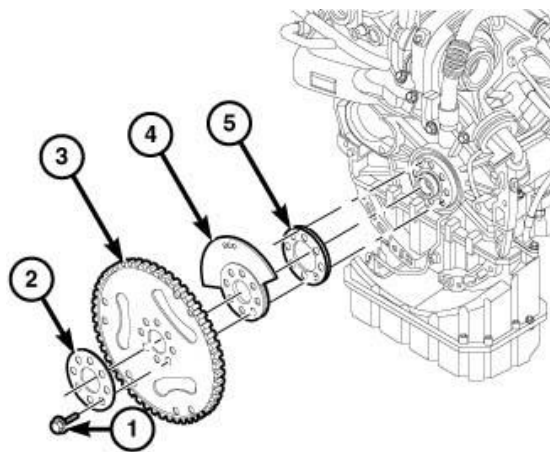

Figure 35 – Flexplate Removal
- 78. Remove the bolts (1), the backing plate (2) and the flexplate (3) (Figure 35).
- 80. Remove the counterweight (4) and tone wheel (5) (Figure 35).
1. Install the **NEW** tone wheel 68493358AA (5) (Figure 35).
2. Install the counter weight (4) and make sure the dowel pin side is inserted into the crankshaft hole for proper counter weight timing. A vibration can occur if the counter weight is installed incorrectly (Figure 35).
4. Lubricate and install the backing plate (2) and tighten the **NEW** bolts 68161231AA (1) finger tight (Figure 35).